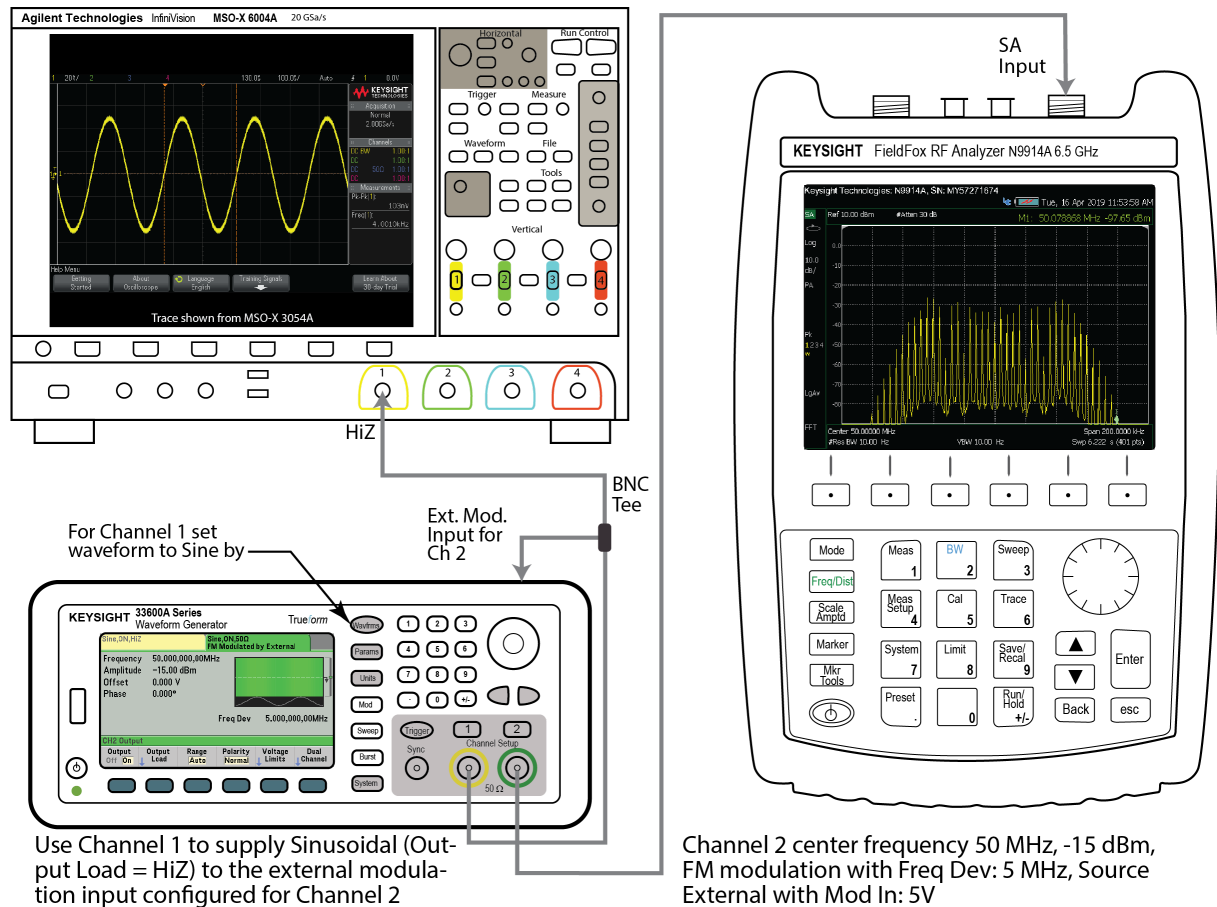

Figure 4: Sinusoidal FM using the combination of the 33600A Channel 2 as a VCO and the 33600A Channel 1 as a modulation source.
1. Connect the output of the Keysight 33600A function generator Channel 2 to the Keysight N9914A spectrum analyzer. Continue to use a carrier frequency of 50 MHz and center the carrier signal on the analyzer screen. Set the frequency span to about 200 kHz. The general setup is shown in Figure 4 as a continuation of Figure 2.